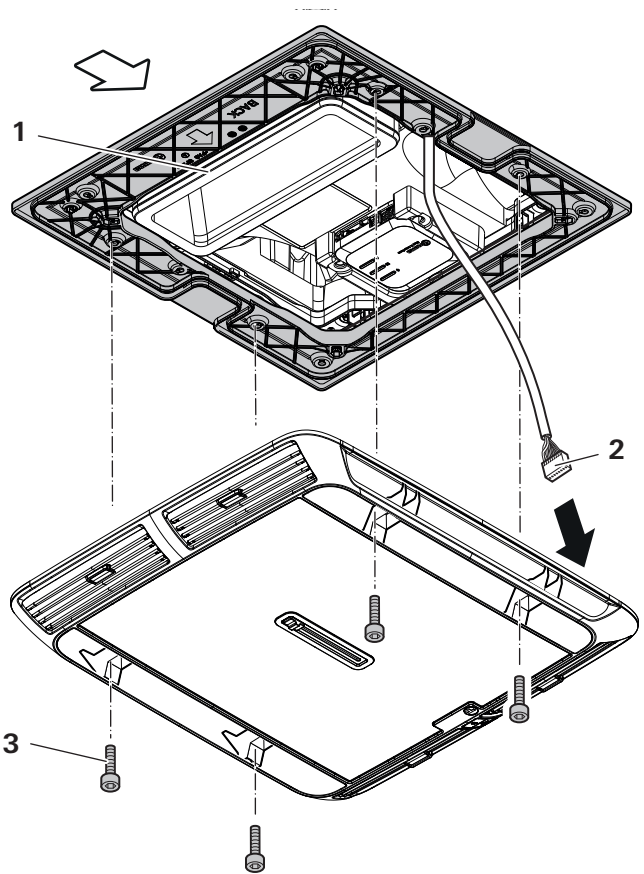

Fig. 26
- ▶ Screw the air distributor to the mounting frame, using 4 screws (Fig. 26-3) (supplied) (Fig. 26). Tighten the screws with a torque of 2 Nm.